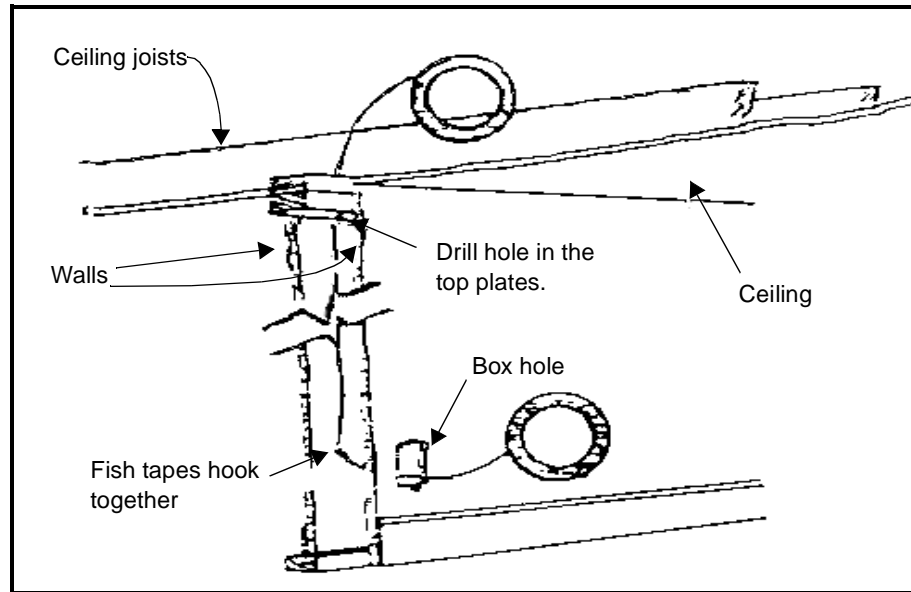

Figure 4-7. Method of fishing long run with access
Fishing cable where you have access requires some fishing gear. *Fish tapes* are the tools to use for long cable runs. For shorter distances, you can use straightened coat hangers or lengths of No 12 wire with one end bent into a tight, blunt hook. Ensure that whatever you use is long enough to span the entire distance plus 2 feet. You need an open space to fish through. If you are going to attempt fishing more than a foot or so, you need a partner to accomplish the following steps (*Figure 4-7, page 4-10*):
Step 3. To install a wire from the basement, run a fish tape through the box hole and down through the drilled hole. Attach the cable as shown in *Figure 4-7* and draw it into the box hole. To ensure that the passage is clear, have someone shine a flashlight in the box hole while you peer into the drilled